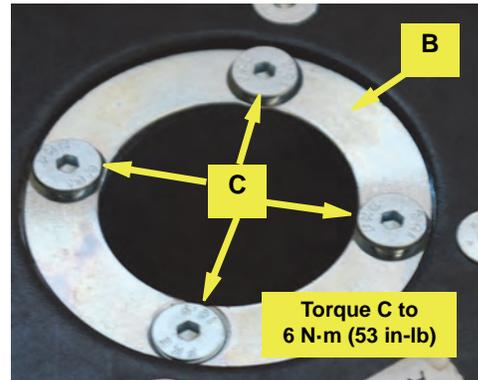

Figure 1b: Securing the shaft adapter
- b. Using the four countersunk screws **C**, secure the shaft adapter **B** in the steering wheel. Torque the screws to **6 N·m (53 in-lb)** (Figure 1b).
- b. Install power cable **TA** between the PWR IN port on the ECU **TC** and the machine's battery (Figure 1b with inset).
Figure 1b with inset: Power cable connection at ECU
- b. **All models:** Using screws **EN** attach ECU **EK** against the non-tab side of bracket **EJ**. For all machines, have the wire connections toward the rear. For *Versatile and Caterpillar* machines this puts the power and communications indicators at the top (Figure 1b), for *Case* machines, at the bottom (Figure 1b inset).